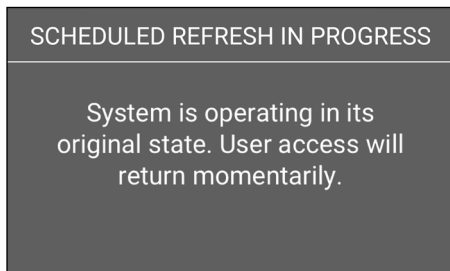

Figure 10. Scheduled refresh screen
- The refresh screen will appear for several seconds and then the device will re-start into the state it was in prior to the refresh. (Fig. 10). The status lights will turn red during the duration of the reboot.